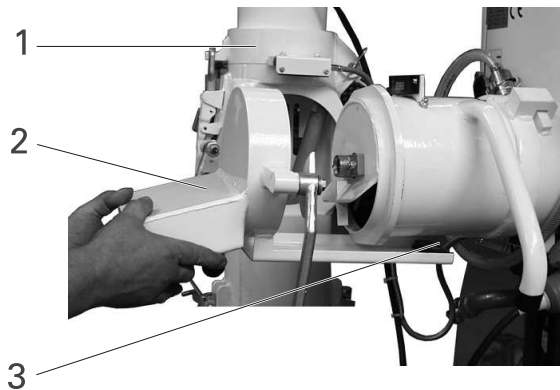

Fig. 23: Assembly continuous-flow mixer
- Remove the lock on the pump mixing pipe and pivot the entire pump assembly (fig. 23,1) away from the machine.
- Mount the safety outlet (fig. 23, 2).